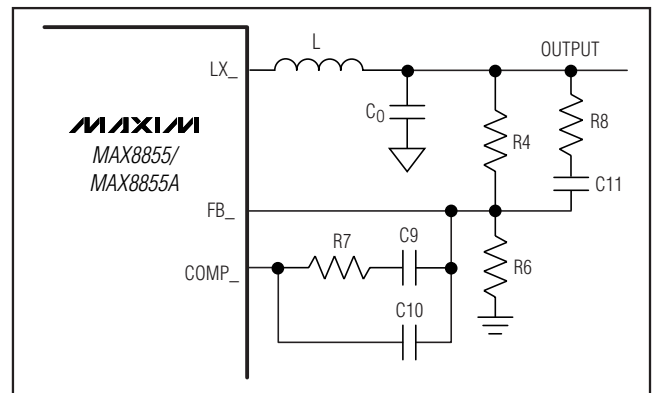

Figure 4. Type III Compensation Network
The output voltages for regulator 1 (with REFIN connected to SS1) and regulator 2 are set with a resistor voltage-divider connected from the output to FB\_ to GND as shown in Figure 4. Select a value for the resistor connected from output to FB\_ (R4 in Figure 4) between 2kΩ and 10kΩ. Use the following equations to find the value for the resistor connected from FB\_ to GND (R6 in Figure 4):
The high-switching-frequency range of the MAX8855/MAX8855A allows the use of ceramic output capacitors. Since the ESR of ceramic capacitors is typically very low, the frequency of the associated transfer-function zero is higher than the unity-gain crossover frequency,  $f_{\text{C}}$ , and the zero cannot be used to compensate for the double pole created by the output filtering inductor and capacitor. The double pole produces a gain drop of 40dB and a phase shift of  $180^\circ$  per decade. The error amplifier must compensate for this gain drop and phase shift to achieve a stable high-bandwidth closed-loop system. Therefore, use type III compensation as shown in Figure 4. Type III compensation possesses three poles and two zeros with the first pole,  $f_{\text{P1\_EA}}$ , located at 0Hz (DC). Locations of other poles and zeros of type III compensation are given by: